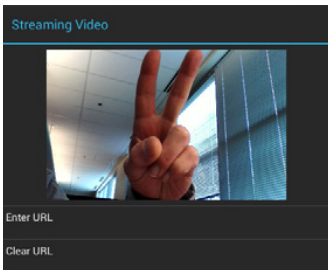

**FIG. 34** Password 1 window
1. In the *G5 Settings* page, under **PASSWORD PROTECTION**, press **Password 1** to open the *Password 1* window to enter a new alphanumeric password via the on-screen keyboard (FIG. 34):